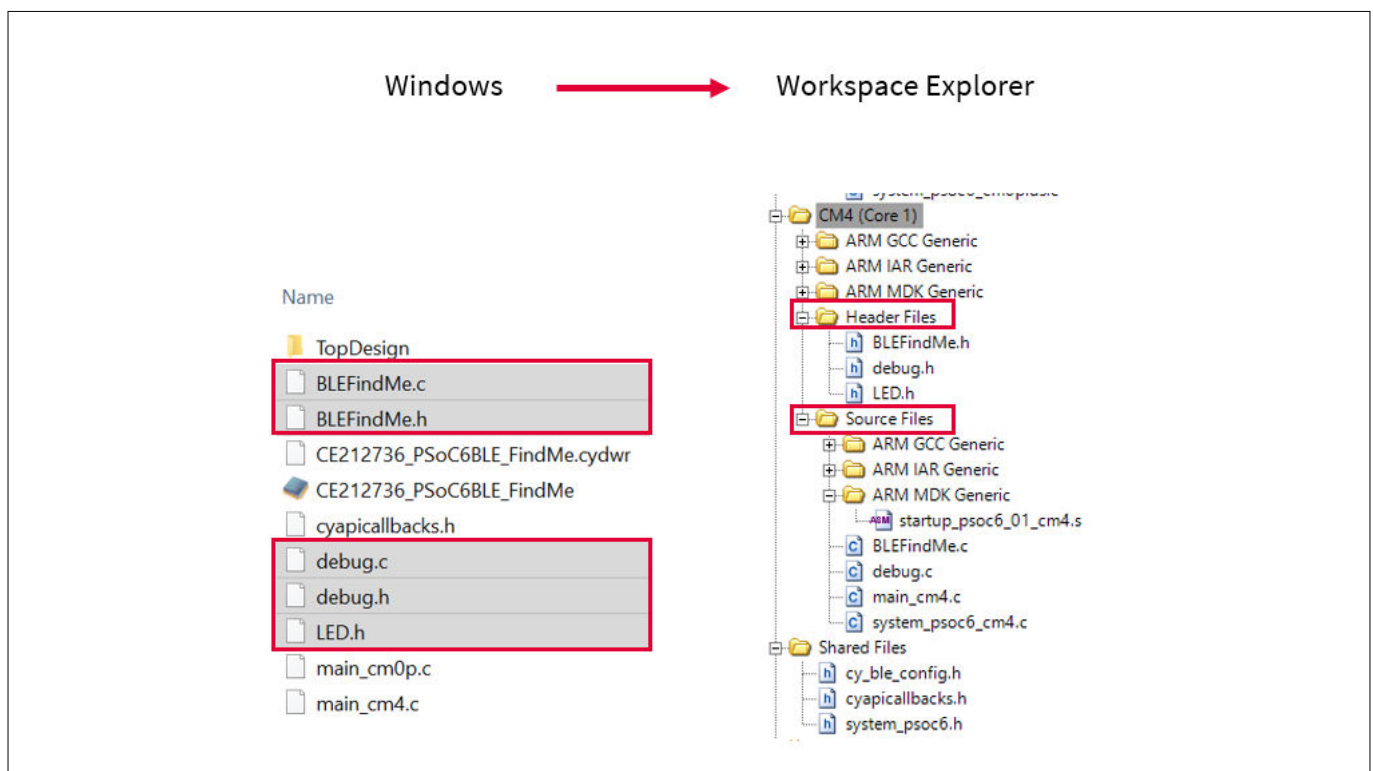

Figure 43 Add files to your project
- Add these files to your project. You can do this by dragging them from the *Windows* folder onto the *Workspace Explorer*, and dropping them in the *CM4* folder location in the workspace. See Figure 43